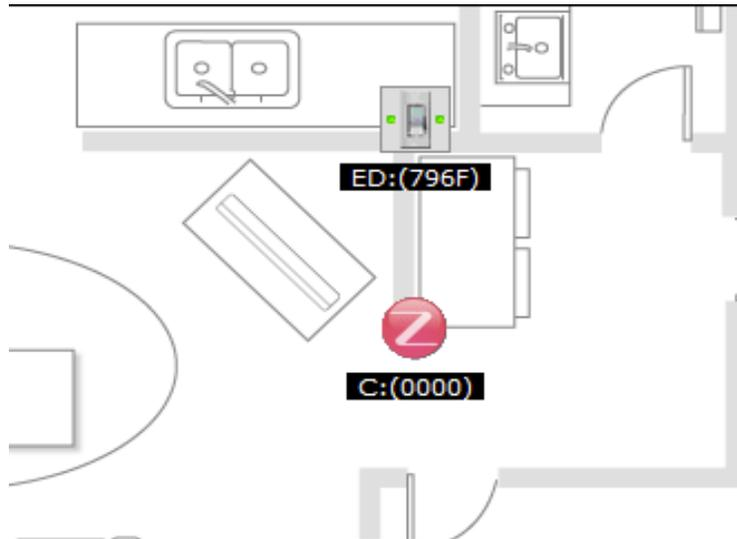

Figure 4-2. ZeD Main Window Showing On/Off Switch Icon
- Briefly press SW1 on the board running the On/Off Switch application so that it will join the network. As shown in Figure 4-2, the On/Off Switch endpoint icon appears close to the Combined Interface Device endpoint icon after a few seconds on the ZeD main window.